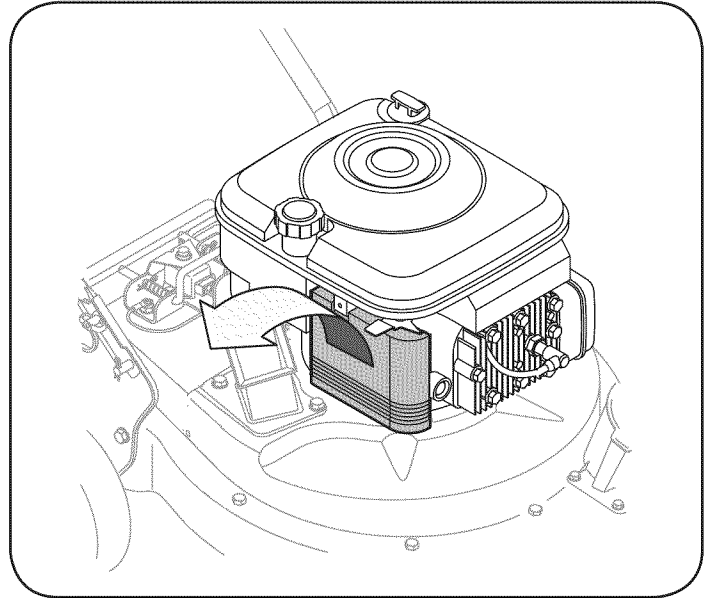

Figure 18
1. Loosen screw and tilt plastic housing cover on side of engine down. See Figure 18.